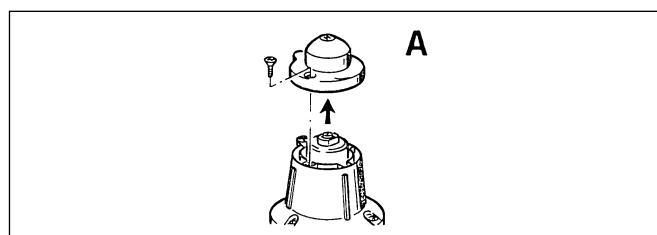

Fig. 2a
**Flow rate adjustment (see fig. 2a and 2b)**